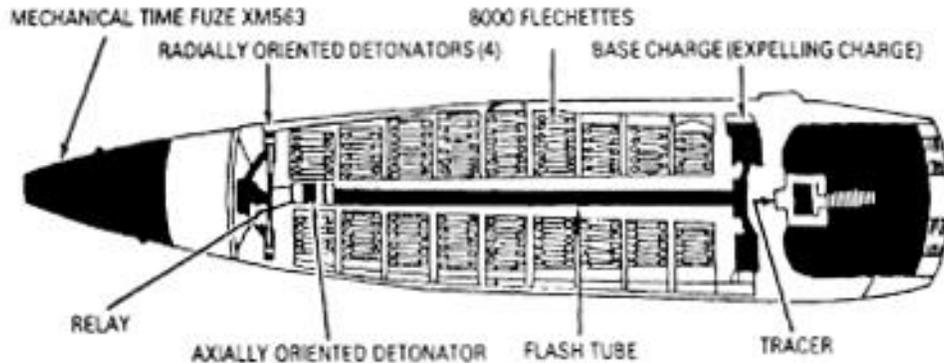

Figure 2-5. APERS flechette (Beehive) projectile
b. **APERS-T M546 (flechette) round** The 105-mm APERS-T M546 (flechette) round, commonly referred to as the Beehive round (Figure 2-5), is designed for use against personnel in direct fire, muzzle action and in direct fire with a time setting other than muzzle action. It is effective against personnel in the open or in dense foliage. The projectile consists of a two-piece aluminum body, an aluminum fuze adapter, and a hollow steel base. The projectile body is loaded with 8,000, 8-grain steel flechettes (darts) . A mechanical time fuze is assembled with the projectile. On firing, the fuze starts to arm immediately and will function as set, either on leaving the cannon muzzle, called Muzzle Action (MA), or at a preset time.